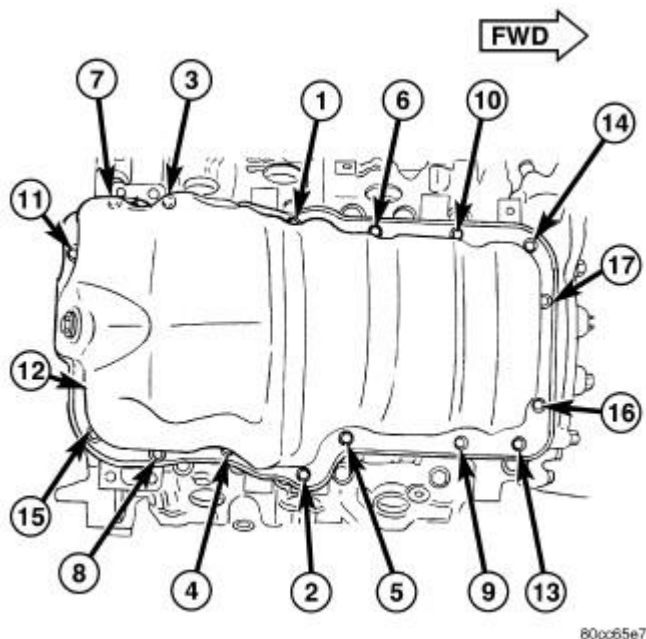

Fig. 130: Oil Pan Bolt Removal/Tightening Sequence
6. Position the oil pan and install the mounting bolts and nut (1-17). Tighten the mounting bolts and nut to 15 N.m (11 ft. lbs.) in the sequence shown in illustration. Refer to **Fig. 130**.